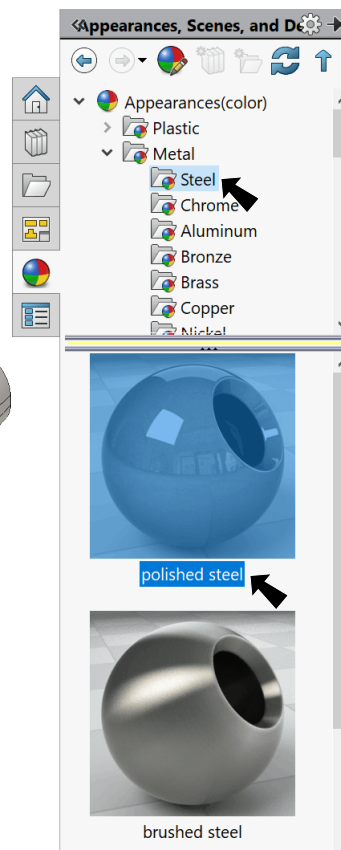

Fig. 50
Step 3. In the Appearances Task pane, expand **Metal**, click **Steel** and in the lower pane select **polished steel**, Fig. 50.